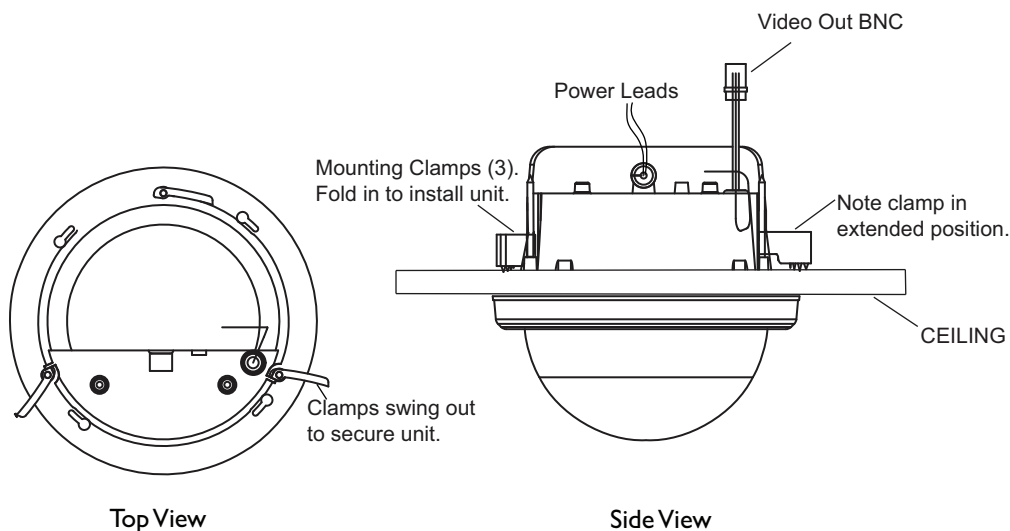

Figure 1 Ceiling Mount Power & Video Connections
- I. Use 2 pencils or a pencil and nail with provided template to cut a 146 mm (5.75-inch) diameter hole in the ceiling where required. The template is found in of the shipping carton, labeled "Install Tool". Connect low voltage power and video (see **Figure 1**).
3. Route power/video cables to the terminal block and BNC connector located on the back of the housing and make proper connections. See **Figure 1**.
4. Route power/video cables to the terminal block and BNC connector located on the back of the housing and make proper connections (see **Figure 1**).